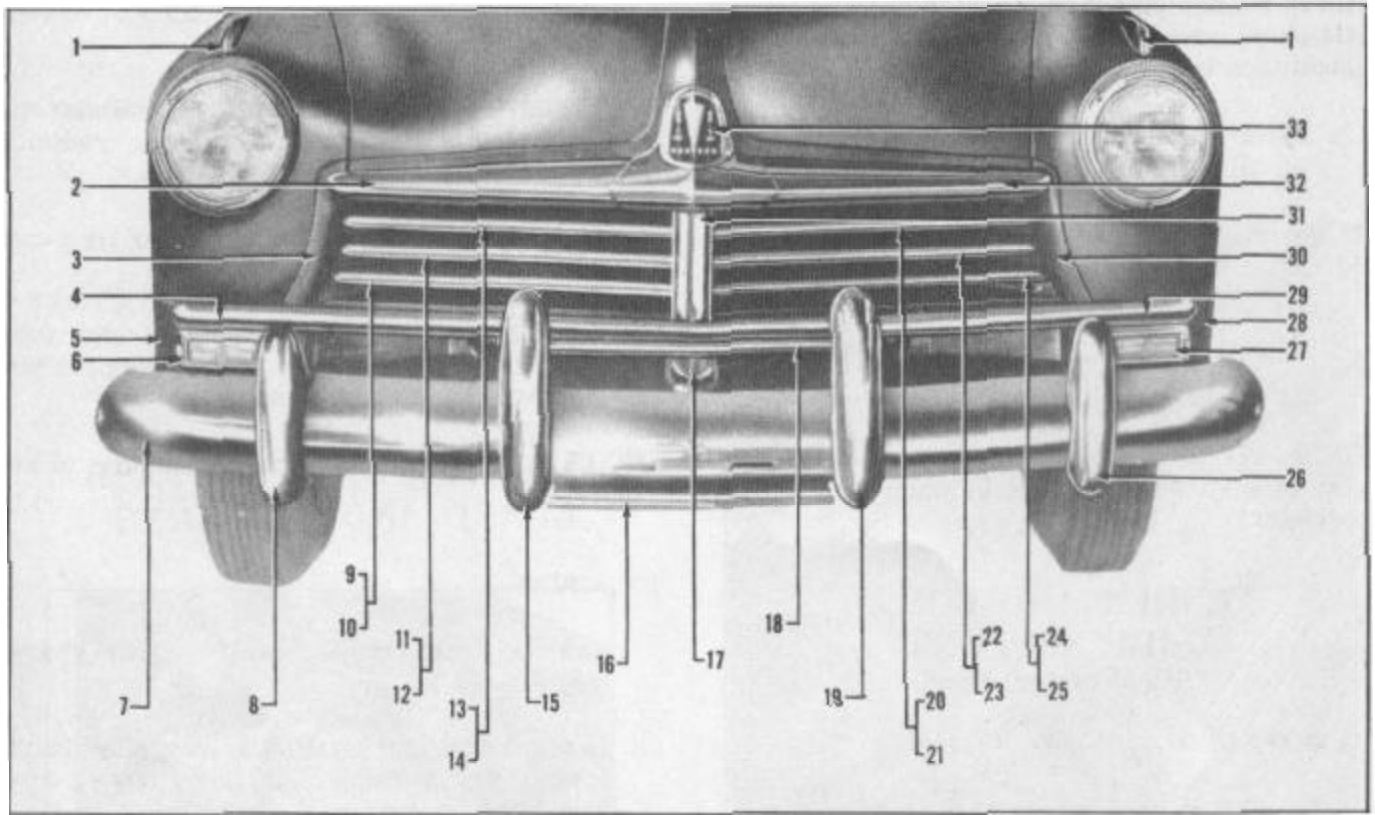

FIGURE 5
1. Remove front bumper center grille guard (15) Figure 5.
3. Remove two brass nuts and clips (each side) under fender attaching fender to splash guard moulding (4).
4. Remove bolt attaching splash guard to grille lower center bar (17) and remove splash guard.